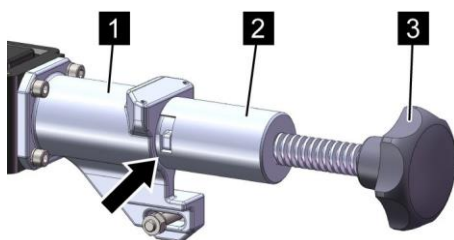
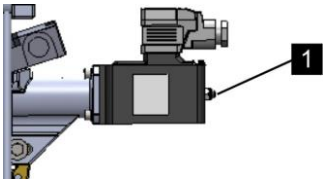

Fig. 152: Clamping device
Fig. 153: Locking bolts
7. ➤ Fit the clamping device (Fig. 152/2) onto the holder of the EM release device (Fig. 152/1) and fix it in place (Fig. 152/arrow).
8. ➤ By turning the adjustment wheel, push the release pin (Fig. 152/3) of the clamping device far enough into the housing that the locking bolt (Fig. 153/1) can be pushed in the counter direction and lock the release pin.